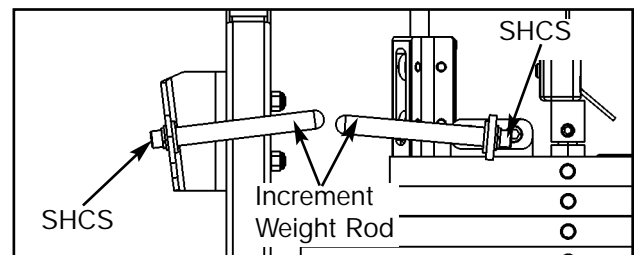

Figure 9
A. Securely tighten the SHCS securing the increment weight rod (located on the weight stack). See Figure 9.
B. Securely tighten the SHCS securing the other increment weight rod. See Figure 9.